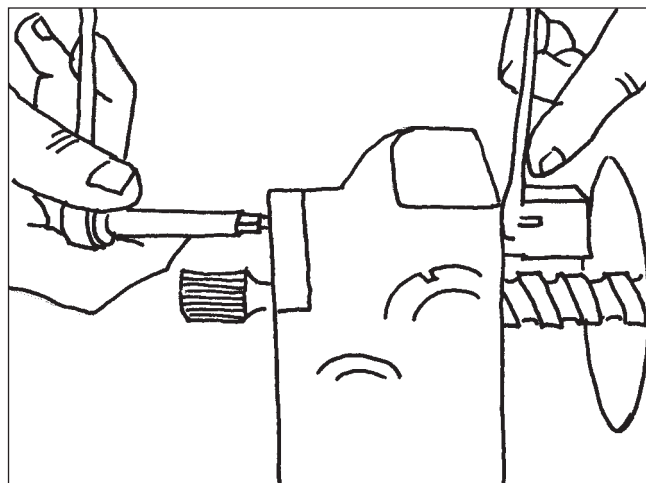

Figure 46
5. Insert the screwdriver into the slotted head of the plunger body to hold the plunger body in place. Use the locking pliers to turn the plunger flange off the plunger body, while holding the plunger body in place with the screwdriver. (Figure 46).